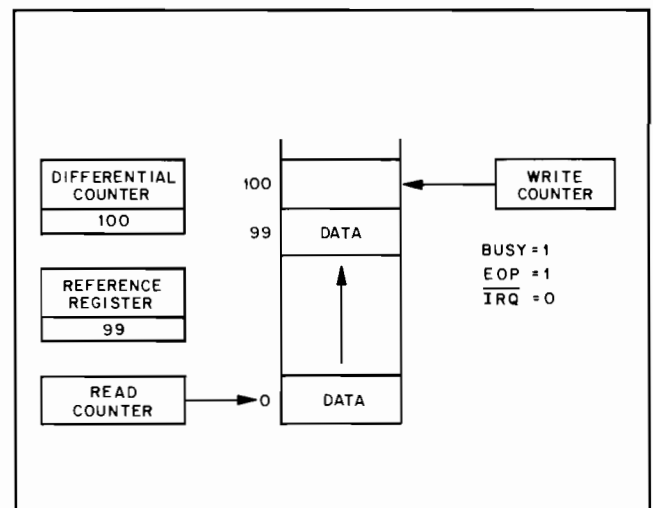

Figure 4-7. Memory After The Device Has Transferred 100 Words To Memory.
- e. The device continues to send data words to memory as described in steps (a) through (d). After the 100th word is written to memory, the memory counters have the values shown in Figure 4-7. With the difference counter equal to 100 the ">" (greater than) line from the comparator goes high and sets EOP. Since the card is armed, an interrupt request ($\overline{\text{IRQ}}$) is sent to the Multiprogrammer.
- c. The read counter is incremented by a Cycle Card (CY) instruction and the difference counter is decremented.